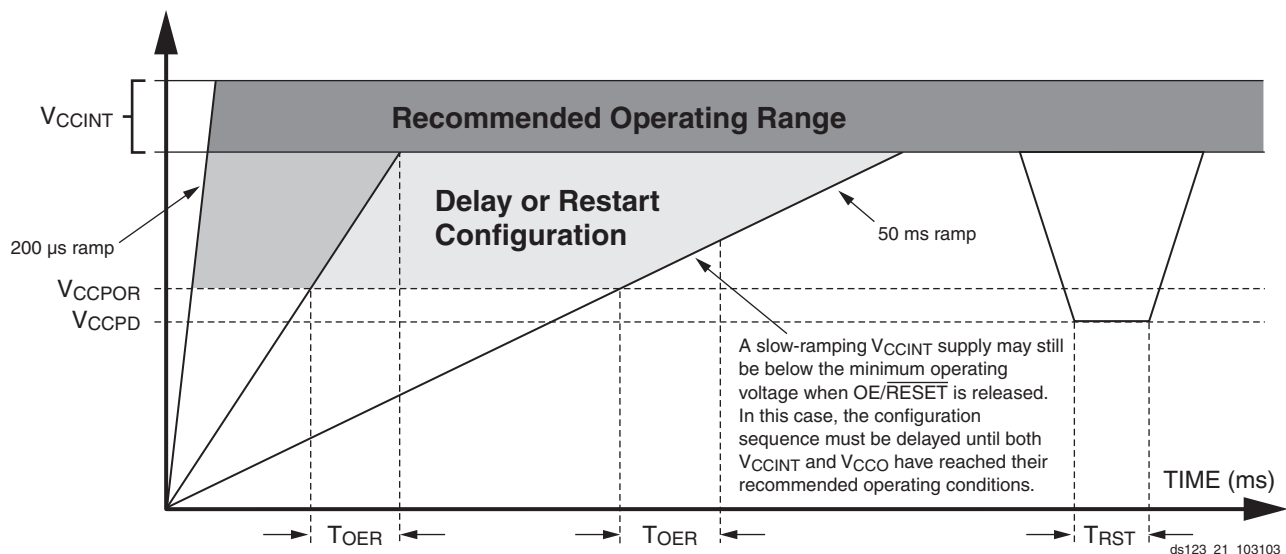

Figure 14: Platform Flash PROM Power-Up Requirements
and  $\overline{OE}/\overline{RESET}$  is again held Low until the after the POR threshold is reached.  $\overline{OE}/\overline{RESET}$  polarity is not programmable. These power-up requirements are shown graphically in Figure 14.
- At power up, the device requires the  $V_{CCINT}$  power supply to monotonically rise to the nominal operating voltage within the specified  $T_{VCC}$  rise time. If the power supply cannot meet this requirement, then the device might not perform power-on-reset properly. See Figure 14, page 24.